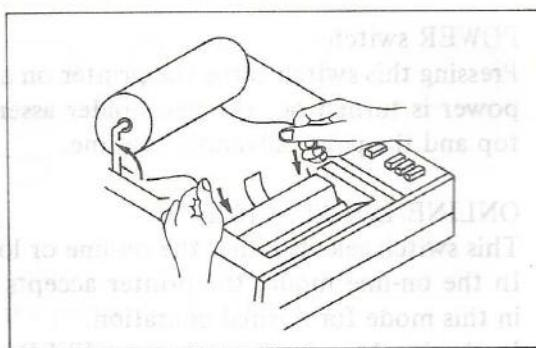

Fig. 2
- (3) Raise the roll bar and put the roll center on it so that the end of the paper comes from the bottom of the roll into the printing area. Raise the pressure plate at the paper insertion slit and insert the paper end of the straight forward into the printing area. (Figure 2)